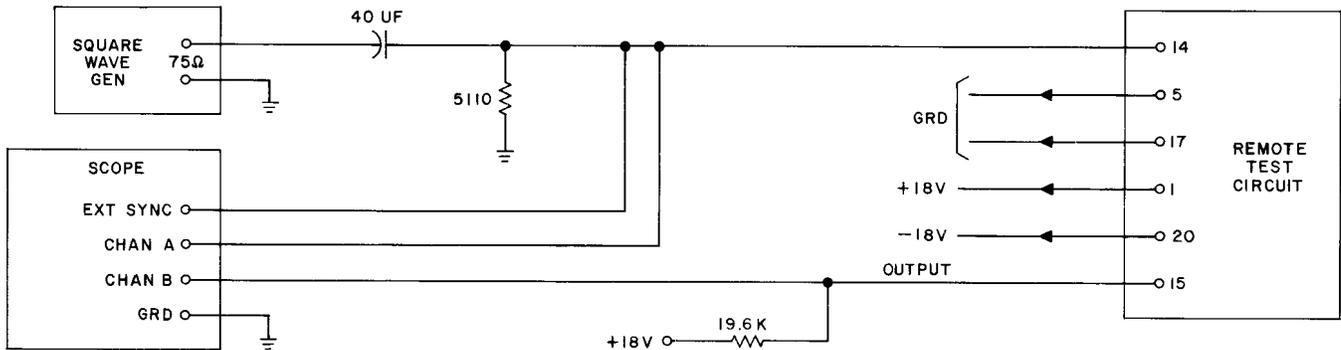

Fig. 61A — Remote Test Circuit Pack Test Circuit
- (3) Remove the connection between test point 7 and ground. The ohmmeter should indicate an open circuit between terminal 15 and ground. Remove the connection between test point 13 and test point 8.
- (4) Connect the circuit pack to the suggested test circuit shown in Fig. 61A. Set the frequency of the square-wave generator to 10 Hz (± 10 percent).